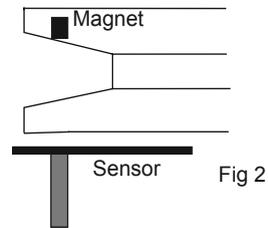

Fig 2
The rode must run between the sensor and magnet for an accurate rope and chain count. If your windlass is prefitted with a magnet in the bottom of the chainwheel you need to remove it and fit a new magnet in the top of the chainwheel. Refer to Fig 2.
**Magnet Fit:** If the windlass is not pre-drilled, drill a hole 10.3mm (13/32") diameter and 9.5mm (3/8") deep into a spoke in the top of the chainwheel. The magnet and sensor must be aligned so that the anchor rode passes between them. (See Figs 2 & 3). The centre of the magnet and the centre of the sensor may be up to 10mm (3/8") out of direct alignment. (See Fig 6). Templates and drilling instructions are supplied for some windlasses.